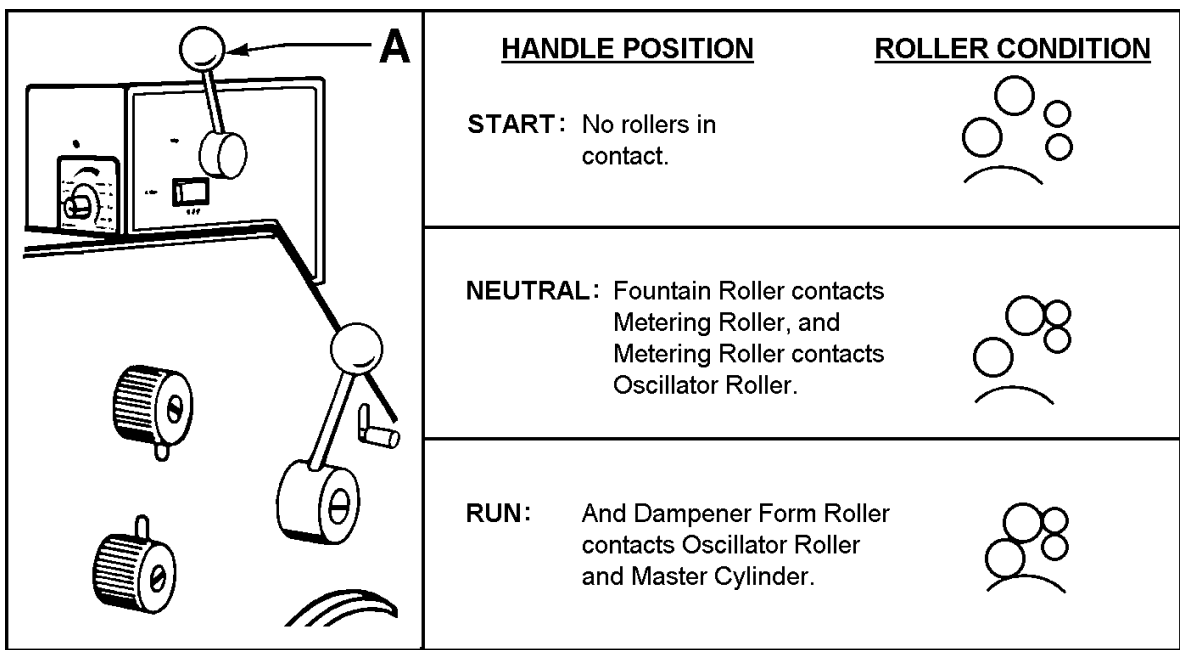

Figure 90 - Dampener Roller Positons
Figure 90 illustrates how the rollers are repositioned as the dampener control handle (A) is moved through the *Start*, *Neutral* and *Run* positions.